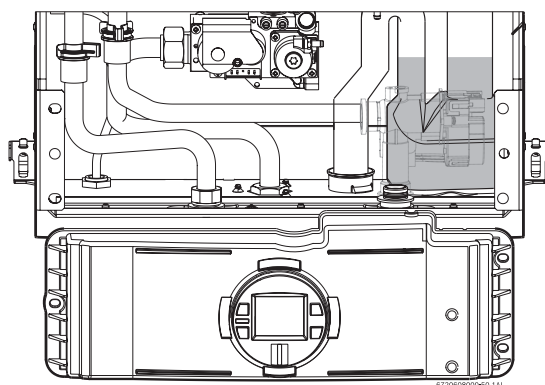

Fig. 22 Water level in condensate trap
- Put the control unit in service position by engaging its tabs with the holes in the bottom horizontal sheet metal, see Fig. 22.